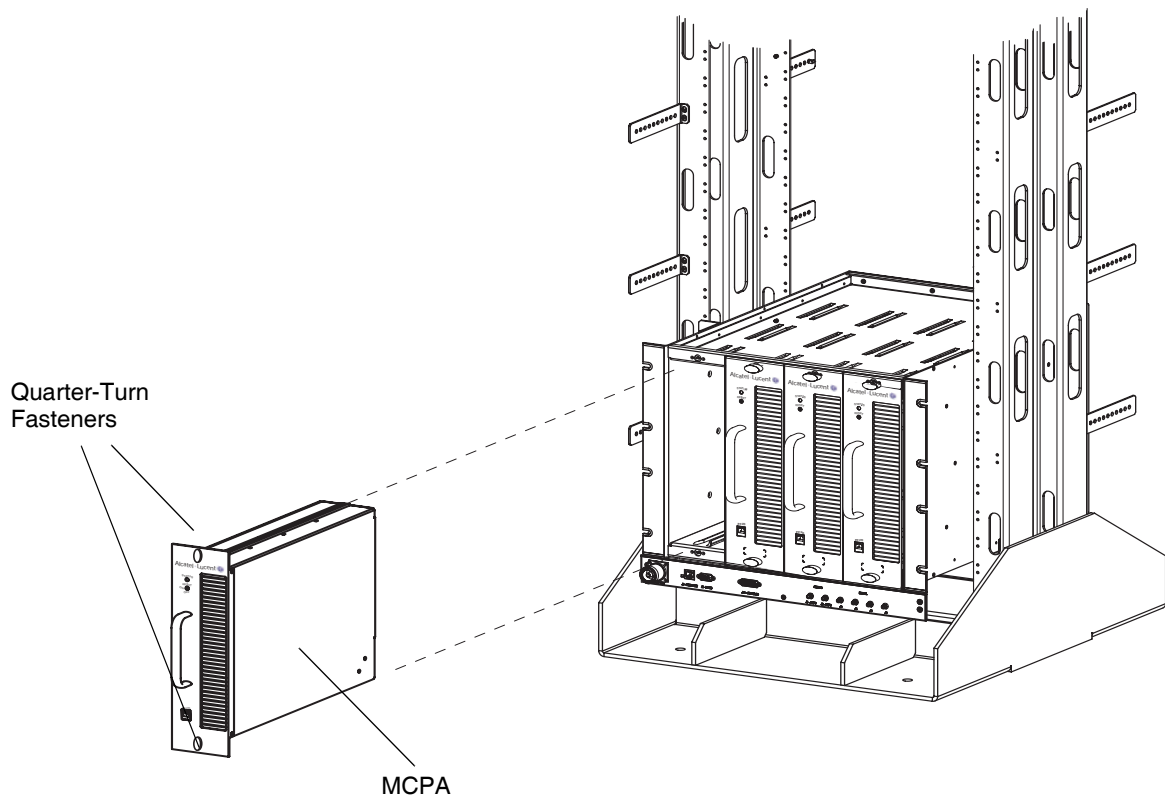

Figure 4-1 MCPA Removal and Replacement
To replace an MCPA module, shown in Figure 4-1, perform the steps in Table 4-3.
3.	With steady even pressure, use handle on front of MCPA to pull module out of enclosure as shown in Figure 4-1